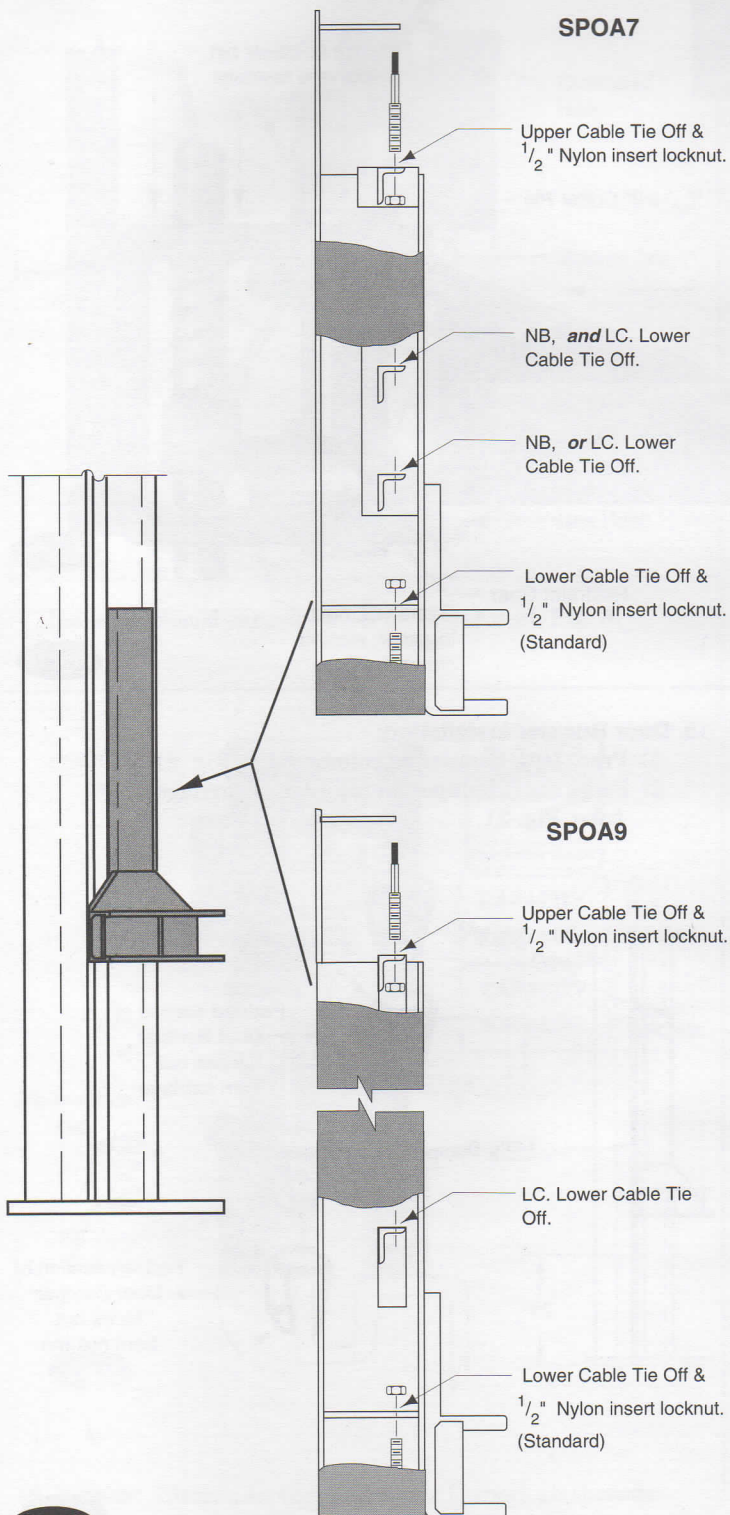

Fig. 22
20. **Final Adjustments:** Raise lift to check equalizer cable tension. Below carriage, grasp adjacent cables between thumb and forefinger, with about 15 lbs. effort you should just pull the cables together. Adjust at upper tie-offs Fig. 22.